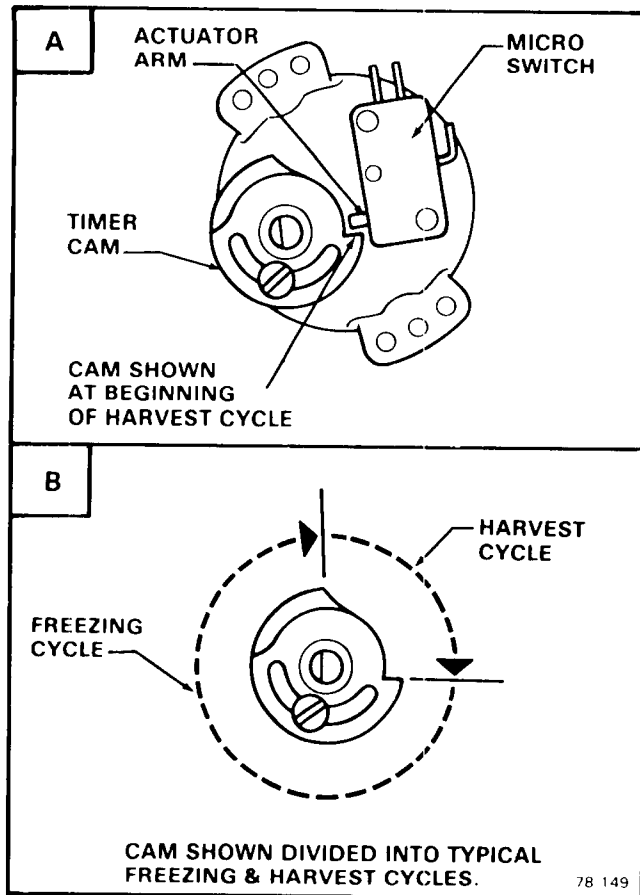

Figure 4-2. Adjustment of the Timer & Switch Assembly
- A. **HARVEST CYCLE:** Slowly rotate the shaft of the Timer & Switch Assembly, located in the hole in the front of the Control Box Cover **CLOCKWISE**, until the actuator arm on the microswitch drops off of the outer cam into the cam slot. An audible click can be heard, but in a noisy area, look at the cam and switch to observe the event. See Figure 4-2.